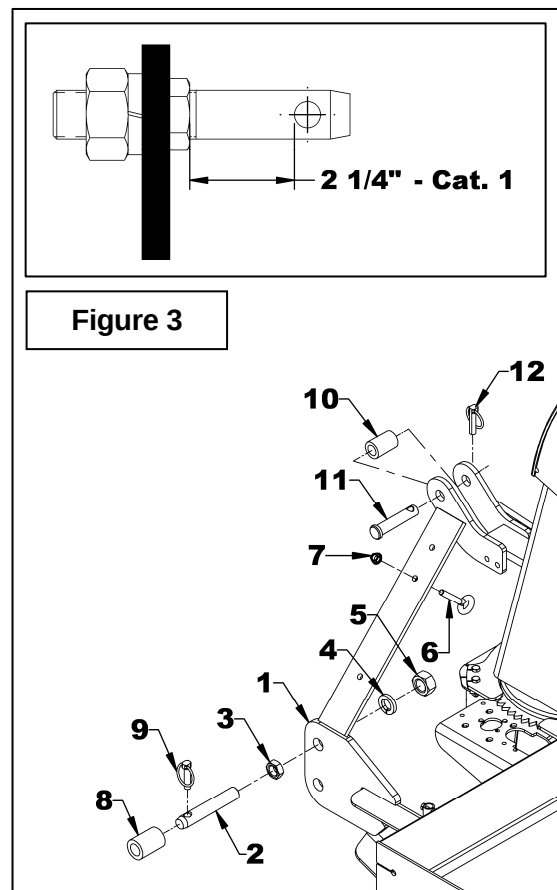

Figure 3
1. **Figure 3:** Remove the nut (item 5) and the lockwasher (item 4) from the cat.1 lower hitch pins (item 2).
2. **Figure 3:** Place the jam nut (item 3) so to obtain 2 1/4" (57mm) minimum between the edge of the hole of the lower hitch pin and the jam nut.
3. **Figure 3:** Insert the lower hitch pins (item 2) in the upper hole of the hitch (item 1) and secure with the lockwasher (item 4) and the nut (item 5). Tighten at 440 ft-lb (597 N-M).
4. **Figure 3:** Insert a 2 1/8" lg bushing (item 8) on each pin and lock in place with two 7/16" linchpins (item 9).
5. **Figure 3:** Insert the 1 7/8" lg bushing (item 10) between the upper attaching plates and lock in place with the tractor hitch pin and linchpin (items 11-12 – not included).
6. **Figure 3:** Install the eyebolt (item 6) in the upper hole of the left or right side of the three point hitch by screwing the eyebolt nut to the top and locking eyebolt in place with a 3/8" serrated flange nut (item 7).